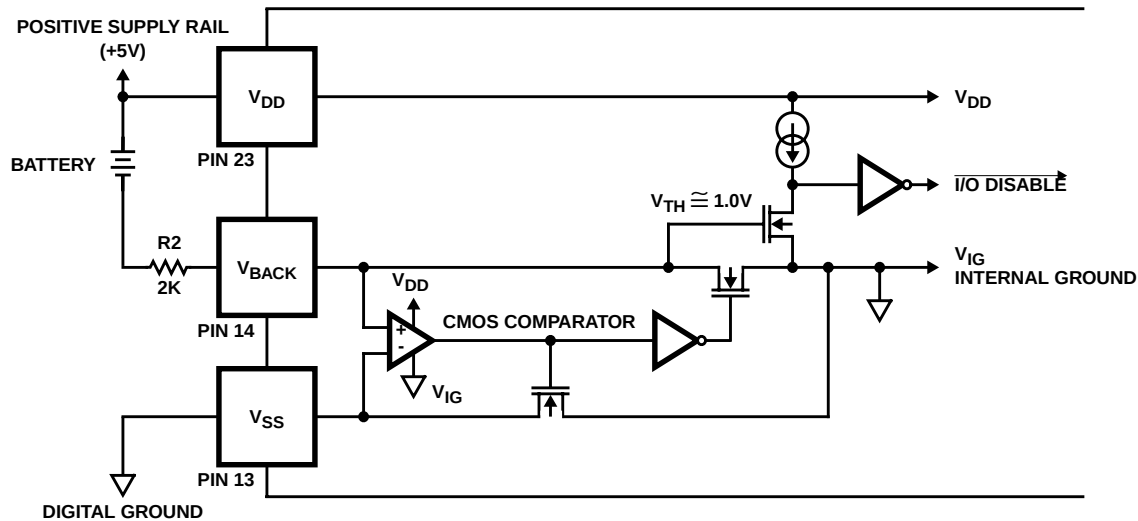

FIGURE 6. SIMPLIFIED ICM7170 BATTERY BACKUP CIRCUIT
The ICM7170 contains an on-chip power down detector that eliminates the need for external components to support the battery-backup switchover function, as shown in Figure 6. Whenever the voltage from the V_{SS} pin to the V_{BACKUP} pin is less than approximately 1.0V (the V_{TH} of the N-channel MOSFET), the data bus I/O buffers in the ICM7170 are automatically disabled and the chip cannot be read or written to. This prevents random data from the microprocessor being written to the clock registers as the power supply is going down.
The new load configuration (Figure 6) allows these two conditions to be met independently. The two load capacitors, C1 and C2, provide a fixed load to the oscillator and crystal. C3 adjusts the frequency that the circuit resonates at by reducing the effective value of the crystal's motional capacitance, C0. This minute adjustment does not appreciably change the load of the overall system, therefore, stability is no longer affected by tuning. Typical values for these capacitors are shown in Table 5. C1 and C2 must always be greater than twice the crystal's recommended load capacitance in order for C3 to be able to trim the frequency. Some experimentation may be necessary to determine the ideal values of C1 and C2 for a particular crystal.
4. **EXTERNAL BATTERY BACKUP** - The ICM7170 may be placed on the same power supply as battery-backed up RAM by keeping the ICM7170 in its operational state and having an external circuit switch between system and backup power for the ICM7170 and the RAM. In this case V_{BACKUP} should be pulled up to V_{DD} through a 2K resistor. Although the ICM7170 is always "on" in this configuration, its current consumption will typically be less than a microamp greater than that of standby operation at the same supply voltage (See Note 9). Proper consideration must be given to disabling the ICM7170s and the RAMs I/O before system power is removed. This is important because many microprocessors can generate spurious write signals when their supply falls below their specified operating voltage limits. NANDING $\overline{CS}$ (or $\overline{WR}$) with a POWERGOOD signal will create a $\overline{CS}$ (or $\overline{WR}$) that is only valid when system power is within specifications. The POWERGOOD signal should be generated by an accurate supply monitor such as the ICL7665 under/over voltage detector. An alternate method of disabling the ICM7170's I/O is to pull V_{BACKUP} down to under a volt above V_{SS} ($V_{SS} < V_{BACKUP} < 1.0V$). This will cause the ICM7170 to internally disable all I/O. Do not allow V_{BACKUP} to equal V_{SS} , since this could cause oscillation of the battery backup comparator (See Figure 6). $V_{BACKUP} = V_{SS} + 0.5V$ will disable the I/O and provide enough overdrive for the comparator.